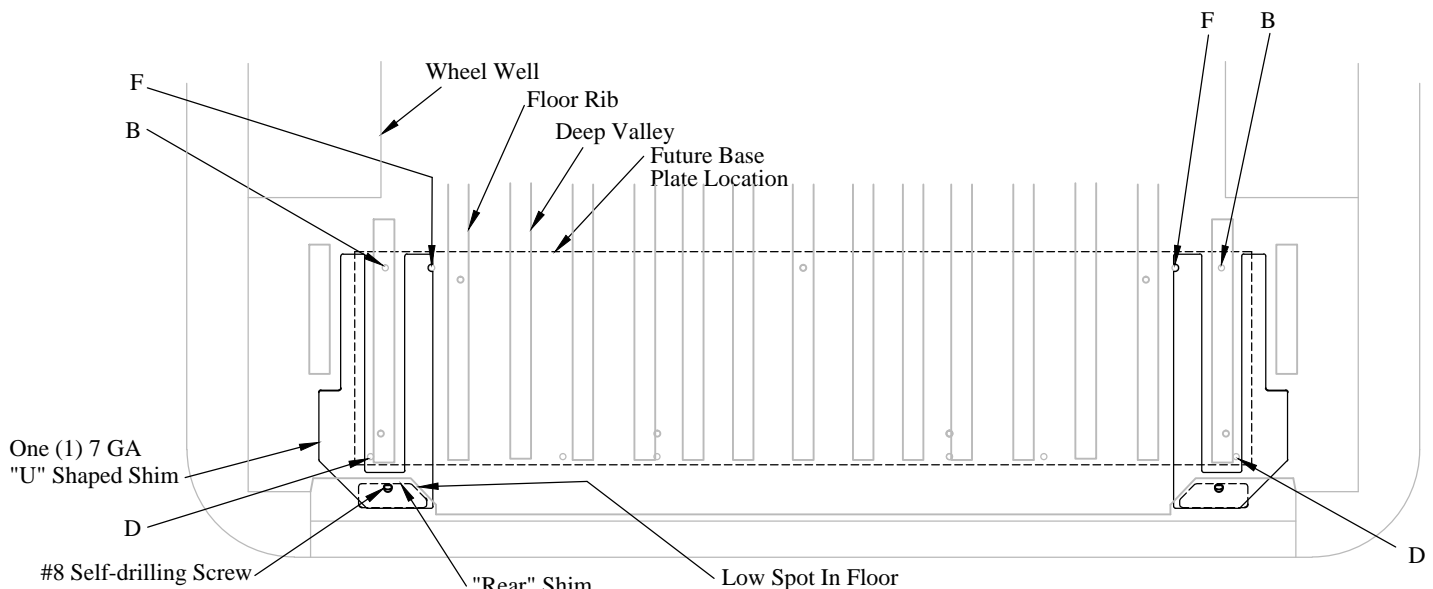

Figure 7: Rib shim locations (top view).
- 1. Position** a "rear" shim near each "D" location to fill the low spot in the floor (Figure 7).
- 2. Position** one (1) 7 GA "U" shaped shim, on top of the "rear" shim, in the spaces between the ribs at each "D" location (Figure 7).